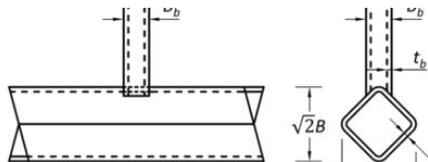

Fig. 7. Square-bird-beak (SBB) HSS connection
- **Chord rotated 45°:** This type (Figure 7), where the chord member is rotated 45° and often called a square-bird-beak (SBB) connection, is more resistant to chord plastification. While there is some profiling required to fabricate this connection, there is added strength relative to a non-rotated chord. Design guidance is limited, but a conservative approach is to treat it as a non-rotated chord and use Chapter K equations, with special attention given to the weld design and welding preparation due to the profiling.